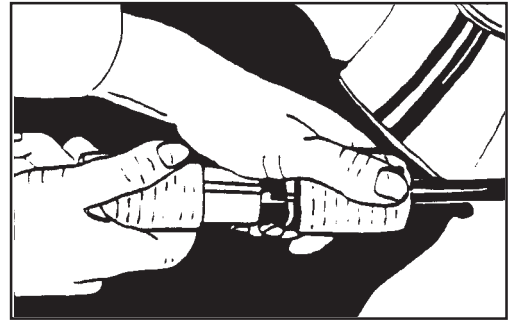

Figure 5
2. Connect the extension cord to the short power cord on the machine. See figure 5.